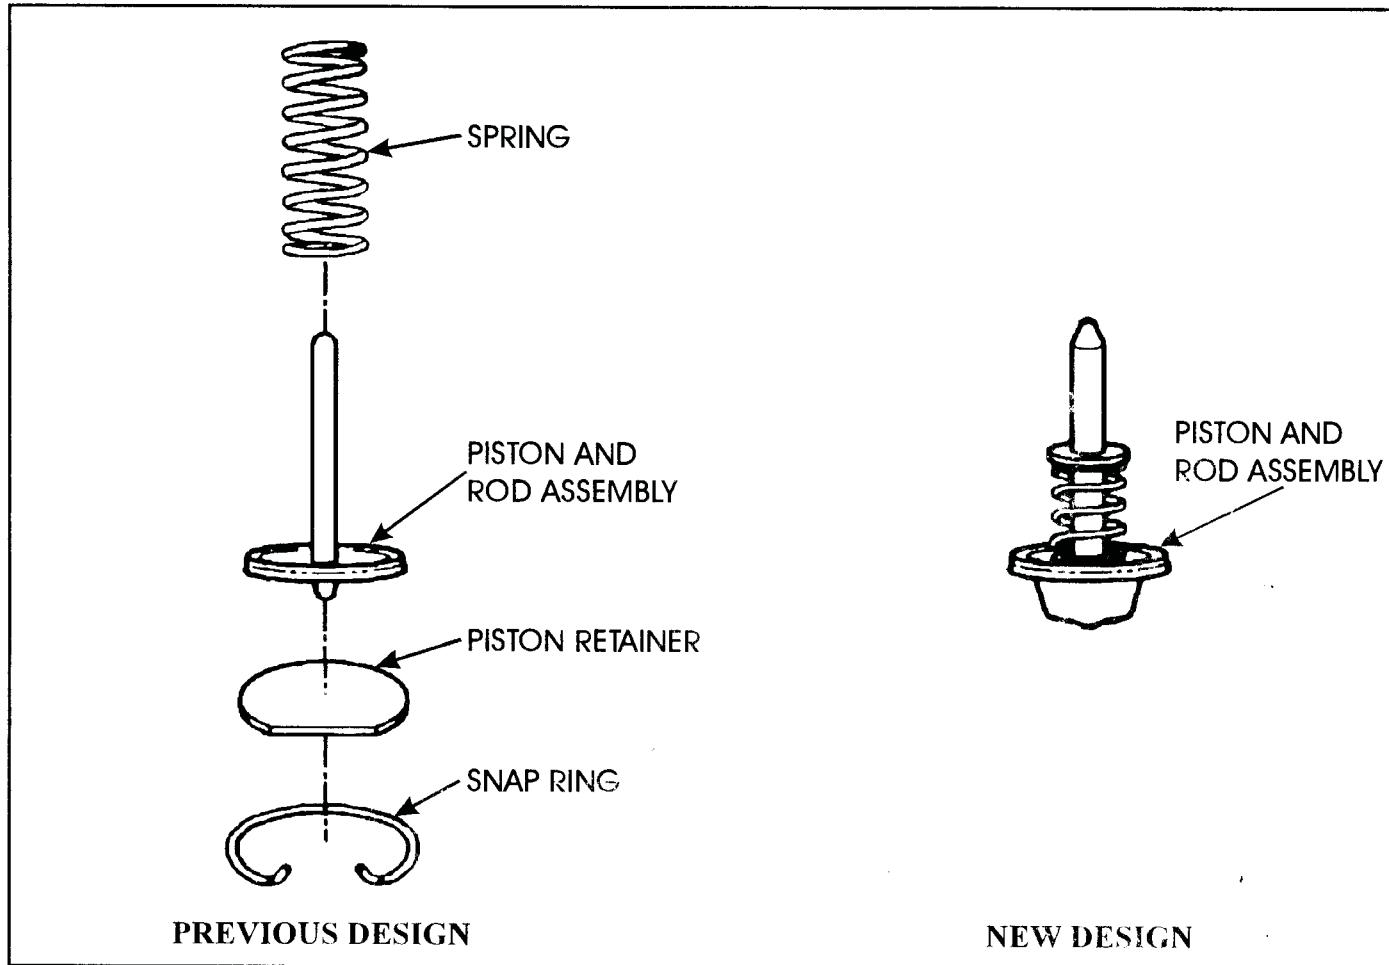

Figure 61
**CHANGE:** Beginning on August 8, 1995, all 1996 model E4OD transmissions were produced with a new design Intermediate Band Apply Servo Assembly (See Figure 61).
- (1) INTERMEDIATE SERVO PISTON - Total change in design, as shown in Figure 61.
- (2) SERVO PISTON RETAINER - Eliminated, as shown in Figure 61.
- (3) RETAINING SNAP RING - Eliminated, as shown in Figure 61.